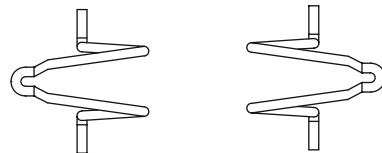

Fig. 43
- Pair of connector retention clips HZZ01209-G; see fig. 43